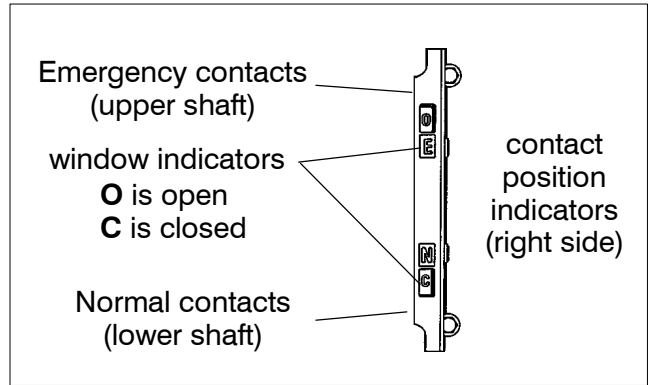

Figure 1-3. Contact position indicators on 150–600 amp. J–design transfer switches . Shown with Emergency open and Normal closed.
*150–1200 amp J, H–designs* Fig. 1-3, -4, -6 thru -11. Attach the manual handle onto the shaft hub, left side of the operator.